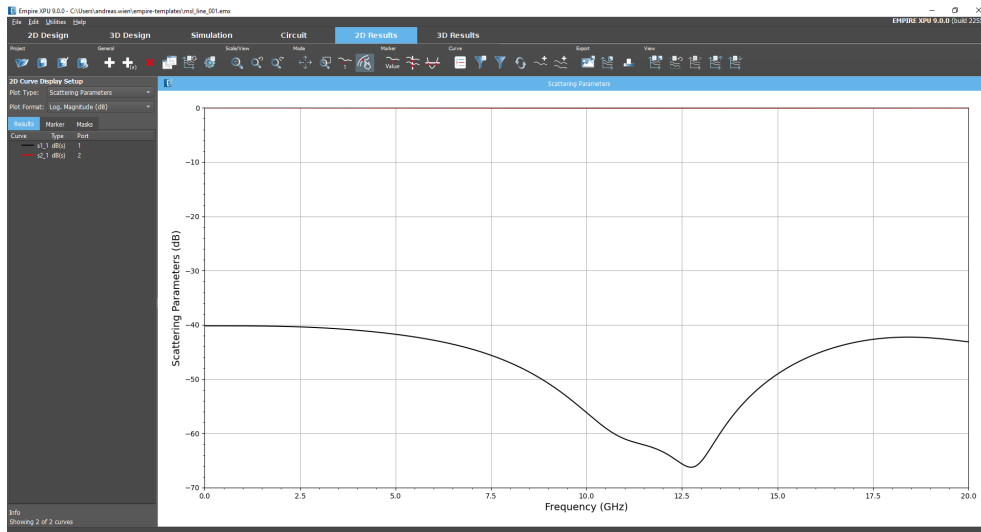

Figure 3.4.: EMPIRE XPU™ 2D Result Plot
- Check: If the S-Parameter results are plotted as in Figure 3.4 the simulation was successful